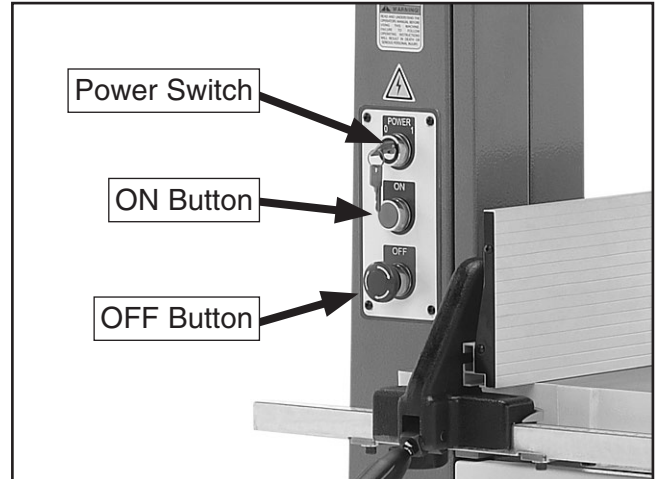

Figure 42. G0513X2B and G0513X2BF control panel.
- a. Insert the key into the power switch (see **Figure 42**), then turn it to the "1".